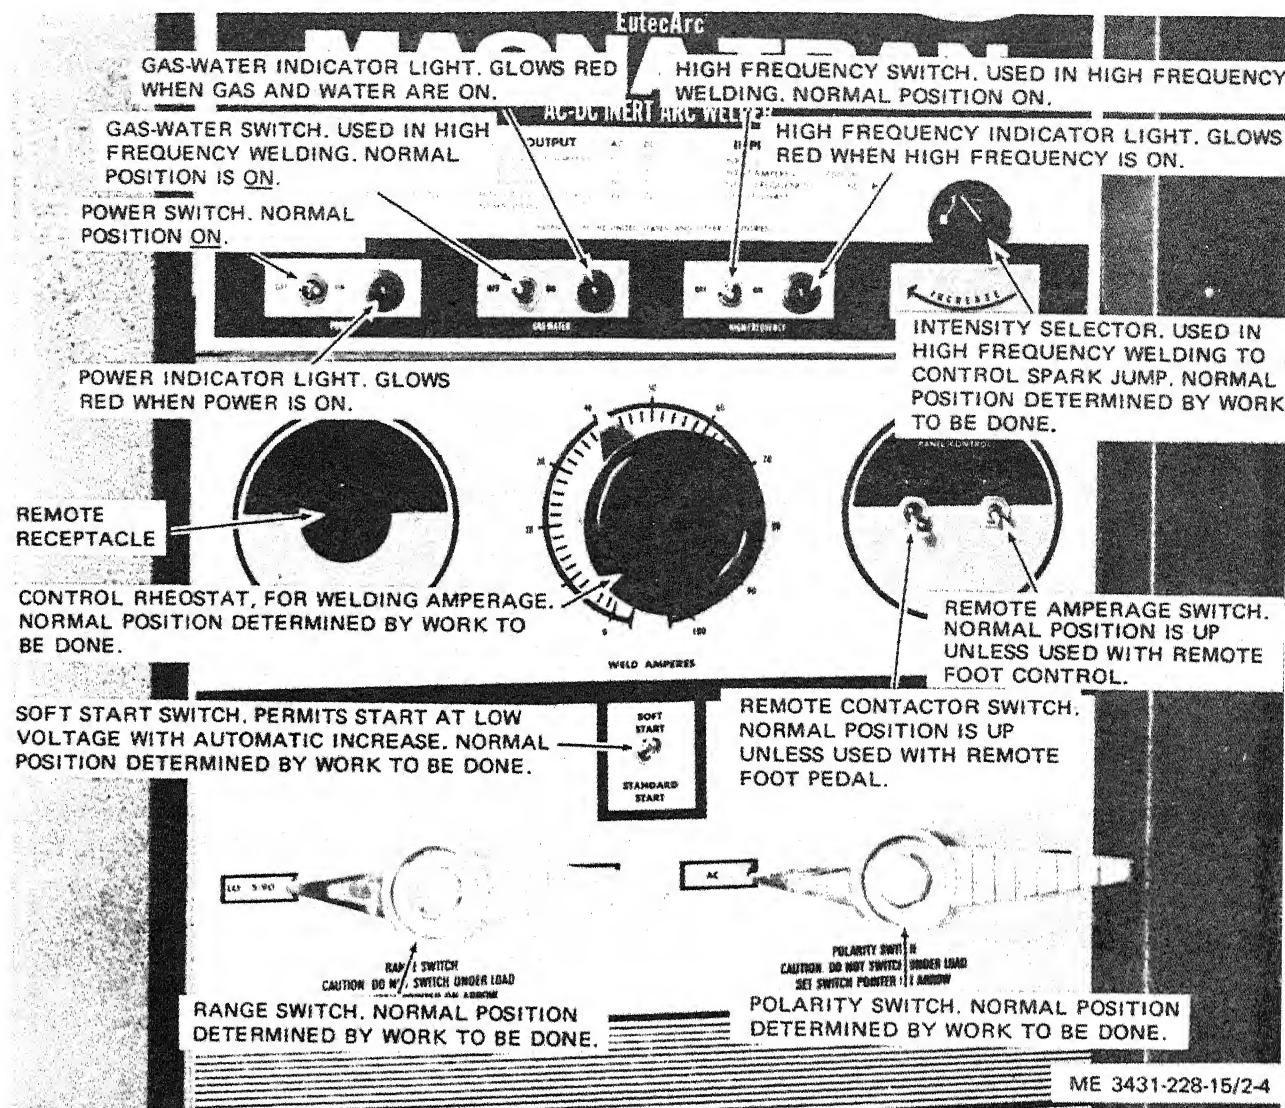
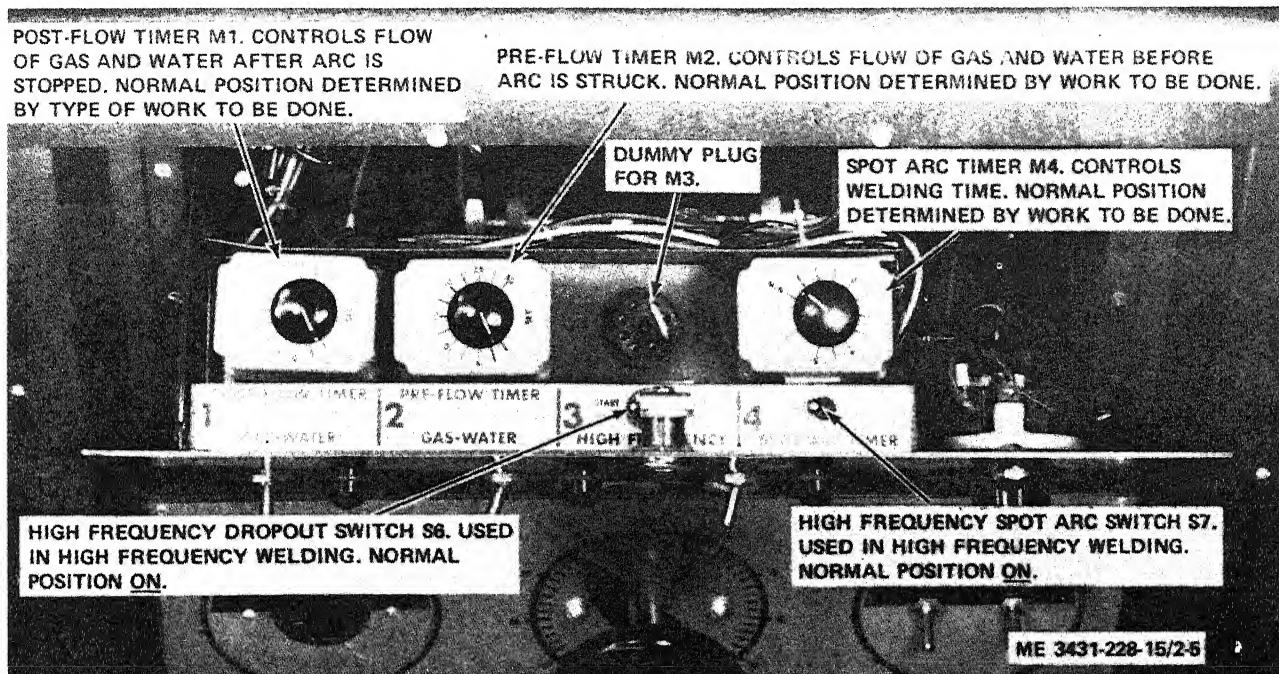

Figure 2-4. Controls and instruments, front panel.
Figure 2-5. Timer drawer, controls.
a. Figure 2-4 illustrates the front panel of the machine, which contains all operator's controls and instruments. Figure 2-5 illustrates the controls in the timer drawer.
(15) *SPOT ARC TIMER* switch. This two-position switch, located inside the high frequency drawer, (fig. 2-5) switches the spot arc timer on or off. In the OFF position, the timer is disabled.
(16) *HIGH FREQUENCY dropout switch*. This two-position switch, located inside the high frequency drawer, (fig. 2-5) permits choosing the method of starting the high frequency circuit. In the START ONLY position, operation is controlled by the pilot relay. In the CONTINUOUS position, neither the pilot relay control nor the high frequency timer will affect the high frequency dropout.
(17) **PRE-FLOW TIMER** control. This variable control is on top of the timer (fig. 2-5) and controls the length of time that gas and water flows before the arc can be struck. Time is variable from 1 to 30 seconds.
(18) **POST-FLOW TIMER** control. This control, located on top of the timer (fig. 2-5) varies the length of time that shielding gas and water will flow after
(19) **SPOT ARC TIMER** control. This control, located on top of the timer (fig. 2-5), varies the time that the timer allows the arc to be on. It is functional only when the SPOT ARC switch is not in the OFF position (para 3-16b).